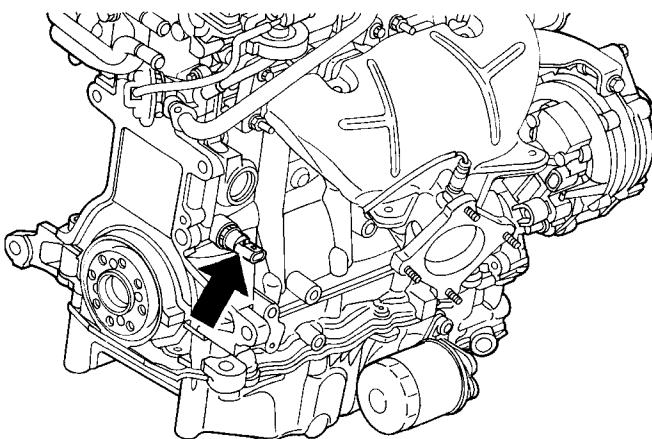

Fig. 93 Engine Oil Pressure Switch
- (1) Raise vehicle.
- (2) Position oil collecting container under pressure switch location.
- (3) Disconnect oil pressure switch electrical connector and remove switch (Fig. 93).
- (1) Install oil pressure switch. Torque switch to 21 N·m (190 in. lbs.) (Fig. 93).
- (2) Connect electrical connector
- (3) Lower vehicle.
- (4) Start engine and allow to run a minimum of 2 minutes.
- (5) Shut engine off and check engine oil level. Adjust level as necessary.